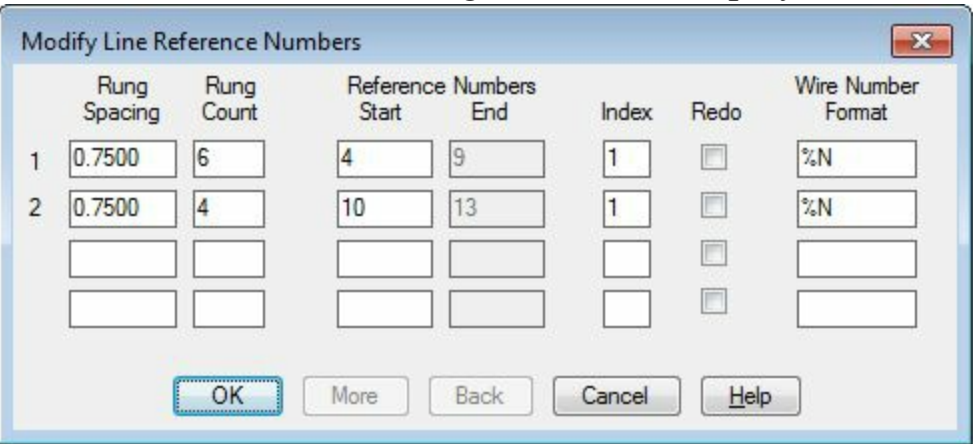

Figure-57. Modify Line Raferece Number dialog box
- Click on the **Revise Ladder** tool from the **Ladder Editing** drop-down. The **Modify Line Reference Numbers** dialog box will be displayed; refer to Figure-57.